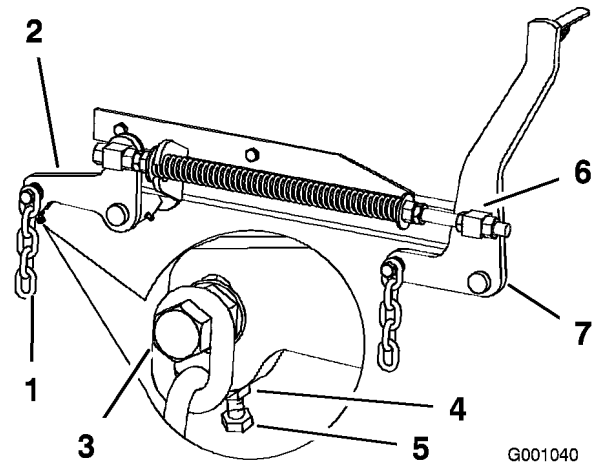

Figure 78
7. If the measurements at positions **B** or **C** are not correct, loosen the bolt attaching the rear chain to the rear support arm (Figure 78).
8. Loosen the jam nut under the rear support arm and adjust the adjustment bolt to get a measurement of 3-1/8 to 3-1/4 inches (Figure 78).
7. Loosen the front swivel jam nuts, at the front of the right and left swivels, approximately a 1/2 inch (13 mm) (Figure 78).
8. Adjust the lift nuts on both the left and the right side of the machine to achieve 1/4 to 3/8 inch (6 to 10 mm) lower in front at **A** than in the rear at **B** (Figure 78).